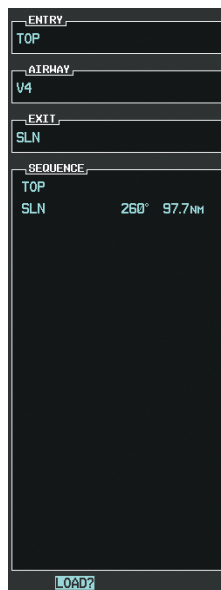

Figure 5-109 Ready to Load V4
- j) Press the **ENT** Key. The selected airway and exit are displayed, and the prompt “LOAD?” highlighted as in Figure 5-109.